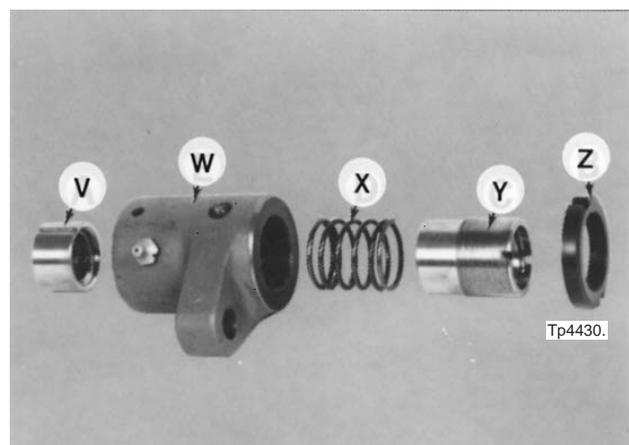

Figure 3.24 - Feed Screw Nut Components
11. Remove half nut "V", Figure 3.24 .
Do not tighten nut “Z”, Figure 3.24, until instructed to do so.
1. Replace spring “X”, half nut “Y”, and nut “Z” in housing “W”, Figure 3.24 .
4. Tighten nut “Z”, Figure 3.24 .